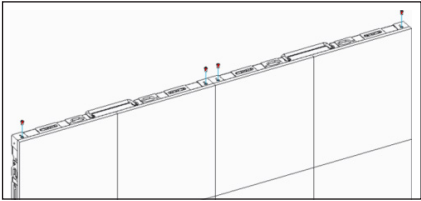

Figure 2: Prepare Top Row of Panels
1. Remove the top alignment pins from the top row of panels. Refer to **Figure 2**.